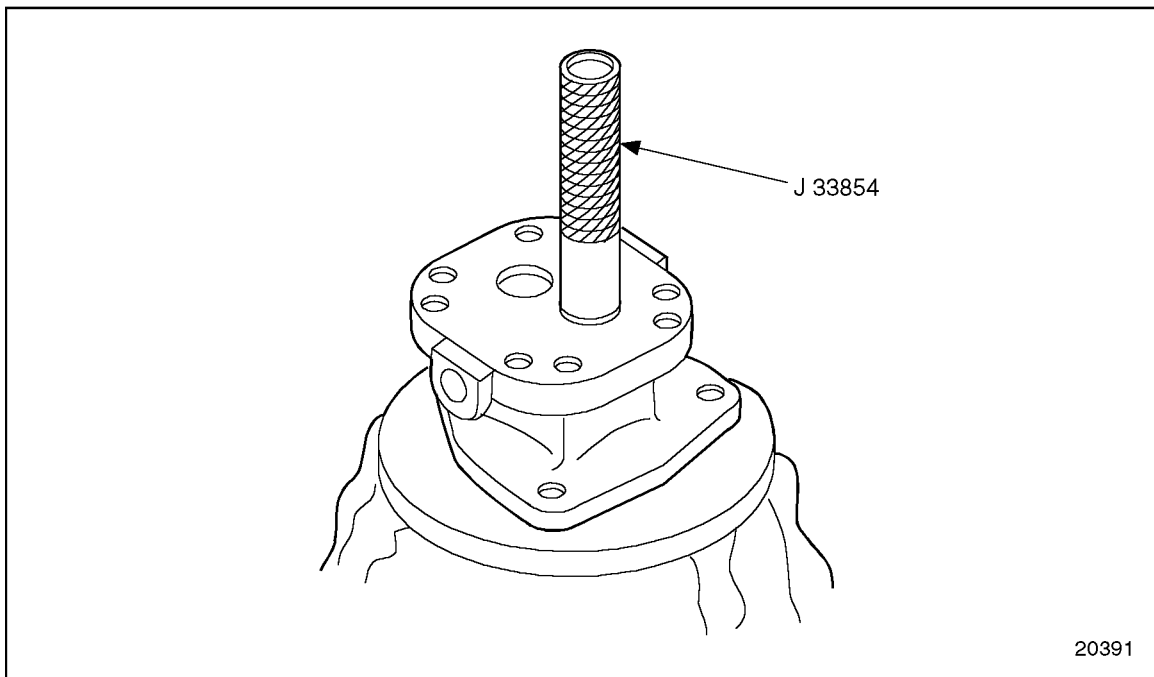

Figure 2-41 Drive Shaft Bearing Installation
17. Install a new needle bearing assembly in the drive shaft bore. See Figure 2-41.